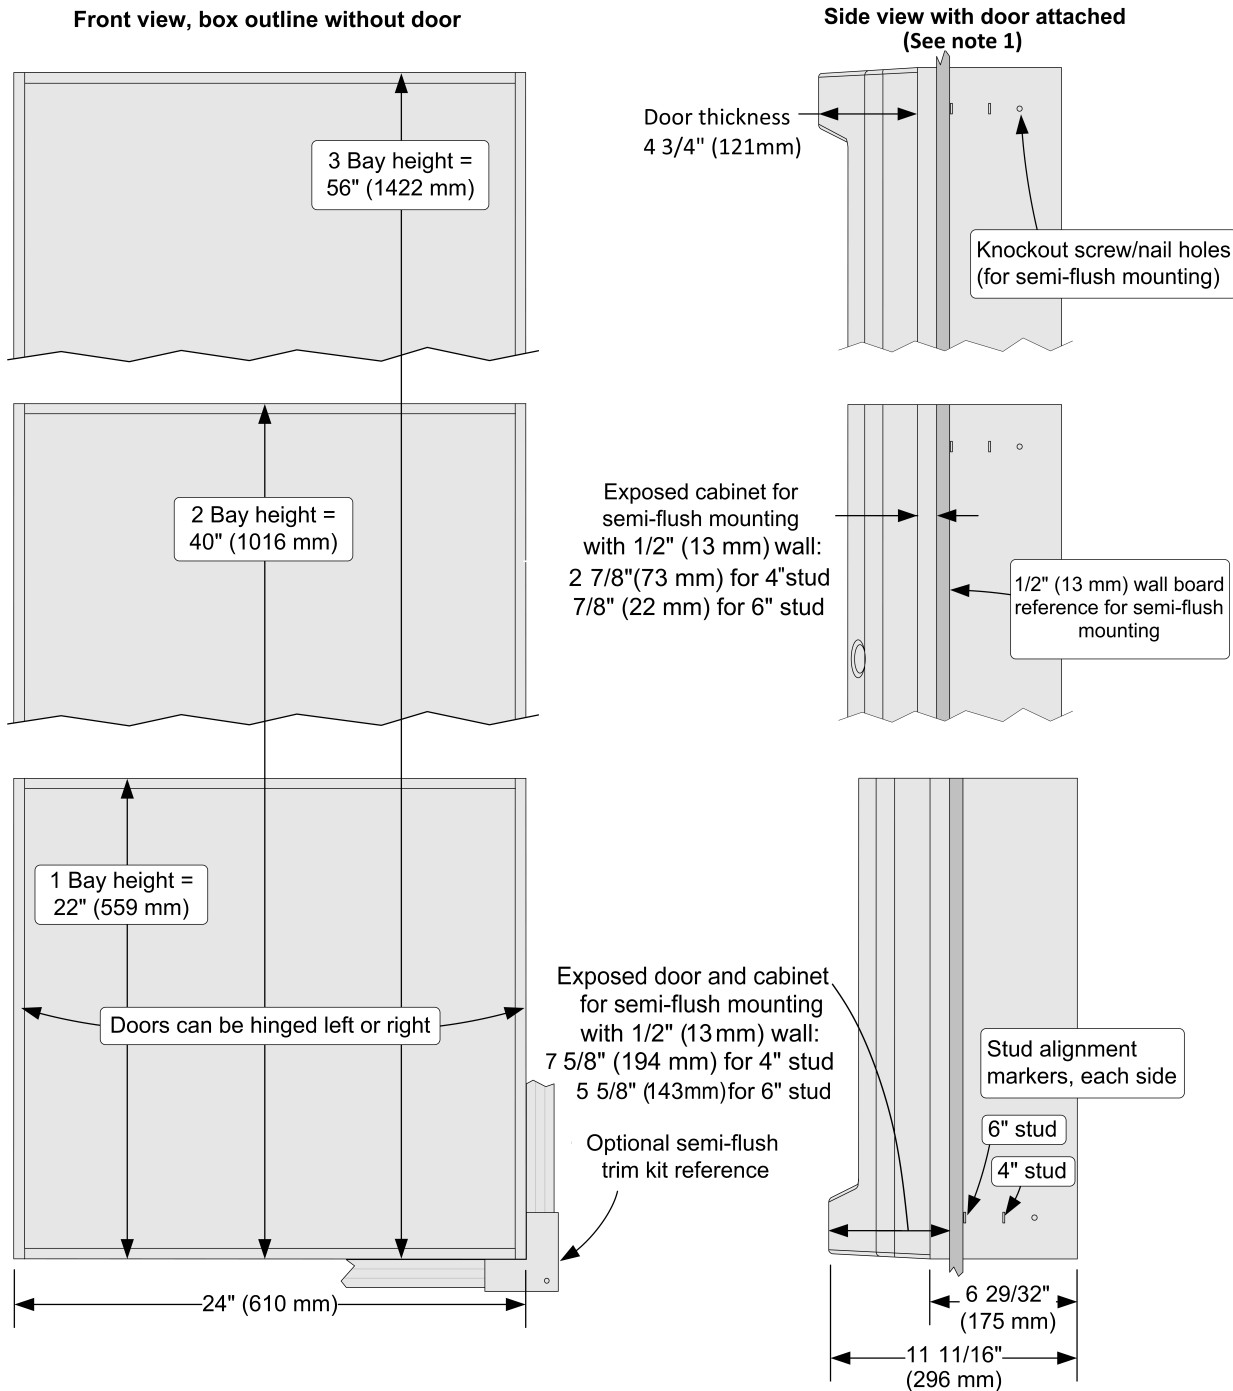

Figure 5: Installation Reference
- Figure 5 shows side view dimensions with minimal cabinet and door protrusion from the exterior wall. For 6 in. stud construction with minimum protrusion shown, the door opens 90 degrees. To allow the door to open 180 degrees, the exposed cabinet dimension from the exterior wall must be a minimum of 3 in. (76 mm) for both 4 in. and 6 in. stud construction.